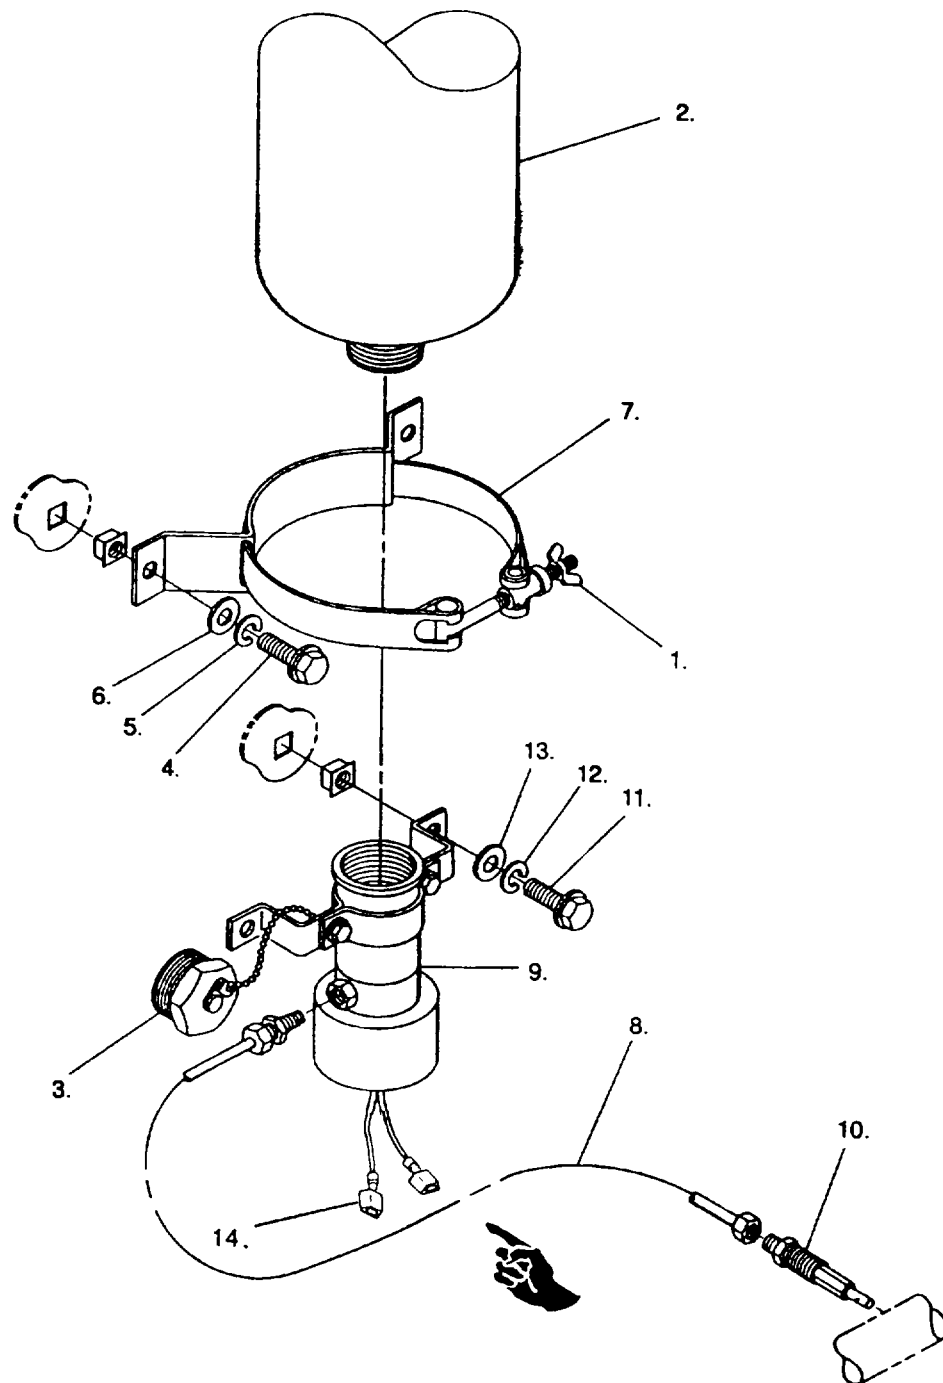

FIGURE 2-27. Ether Start System
- c. Loosen wing nut (1., FIGURE 2-27) and unscrew ether cylinder (2.) from ether solenoid valve (9.).
- a. Install bracket assembly (7, FIGURE 2-27) on generator set housing with bolts (4), lockwashers (5), and washers (6).
- b. Remove cap (3) from ether solenoid valve (9).
- c. Insert ether cylinder (2) through bracket (7) and screw into ether solenoid valve (9).
- d. Close clamp (7) and tighten wing nut (1).
- d. Tag and disconnect ether solenoid valve (9, FIGURE 2-27) electrical leads (14).
- e. Remove tube assembly (8) from ether solenoid valve (9) and spray nozzle (10).
- f. Remove ether cylinder (2) from ether solenoid valve (9), paragraph 2-94.1.
- g. Remove bolts (11), lockwashers (12), washers (13), and ether solenoid valve (9) from generator set housing.
- h. Remove spray nozzle (10) from engine intake manifold.
- a. Install ether solenoid valve (9, FIGURE 2-27) on generator set housing with bolts (11), lockwashers (12), and washers (13).
- b. Install ether cylinder (2) into ether solenoid valve (9), paragraph 2-94.3.
- c. Install spray nozzle (10) in engine intake manifold.
- d. Install tube assembly (8) to ether solenoid valve (9) and spray nozzle (10).
- e. Connect electrical leads (14), remove tags, and close right side engine access doors.